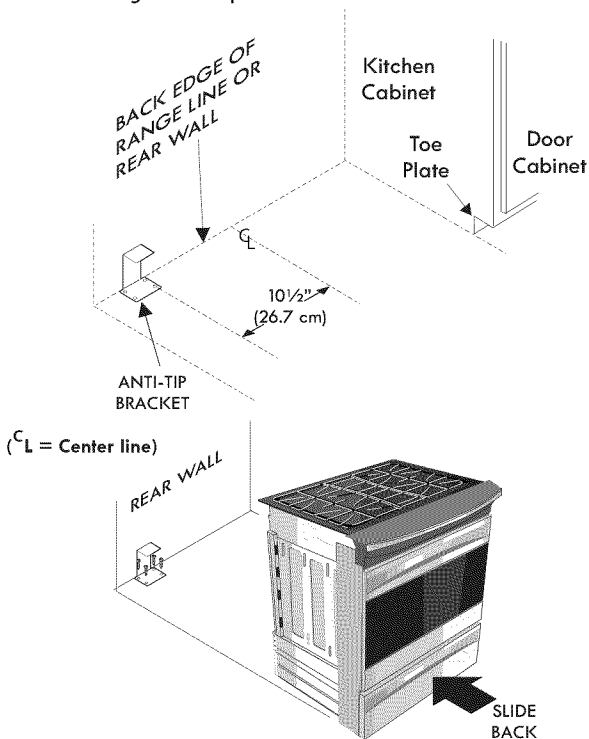

Figure 17
2. Unfold paper template and place it flat on the floor with the right rear corner positioned exactly on the intersection of the center and back lines you just drew before. (Use the diagram below to locate brackets if template is not available (Figure 17)).